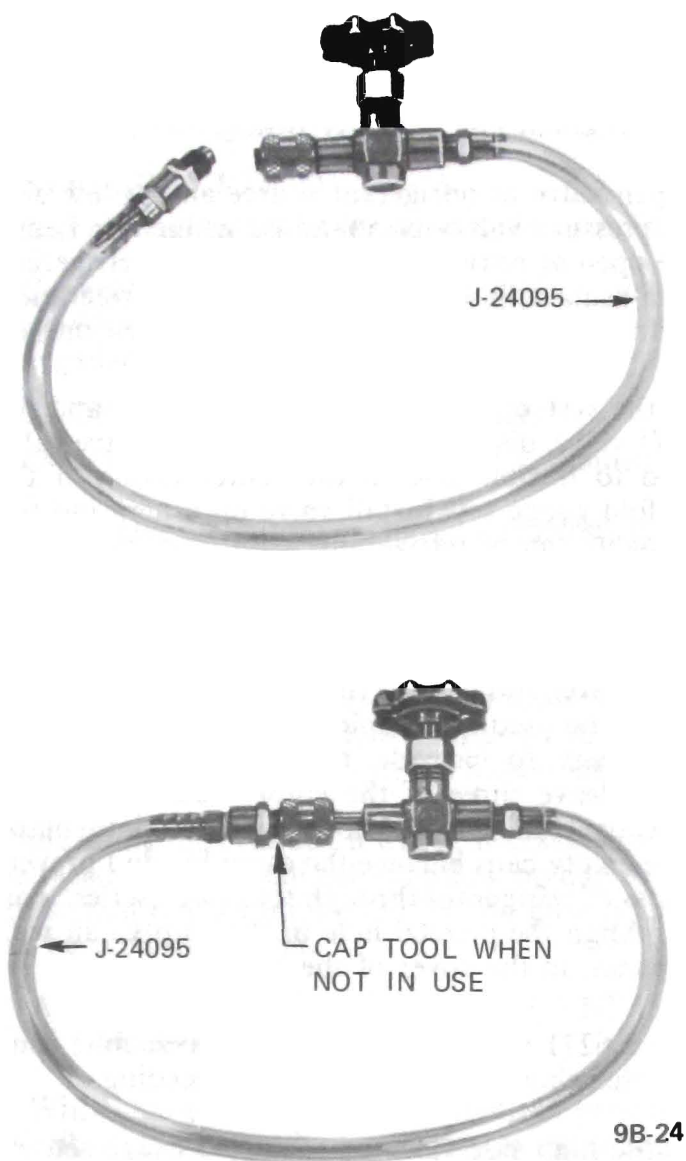

Figure 9B-26 Oil Injector J-24095
f. Disconnect J-24095 and attach pick-up tube fitting to schrader fitting to cap tool. See Figure 9B-26.
6. Turn hand shut-off valves at low and high pressure gauges of gauge set to full clockwise position with vacuum pump operating, then stop pump. Carefully check low pressure gauge approximately for two (2)
Disconnect electrical connector from thermal limiter assembly. Insert a jumper wire between terminals B and C of connector, if compressor operation will be required prior to refrigerant system being fully charged. See Figure 9B-6.